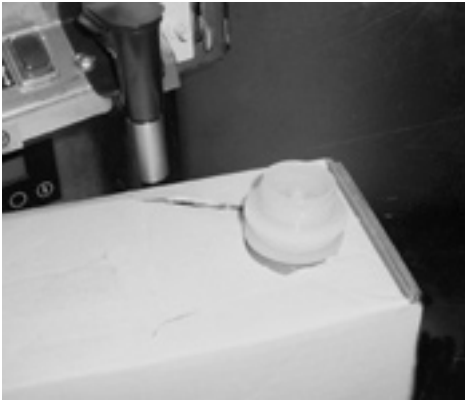

Fig. 1
2. Pull the BIB connector through the hole provided in the box and place it on the drip tray with the connector facing up. (See Fig. 1)